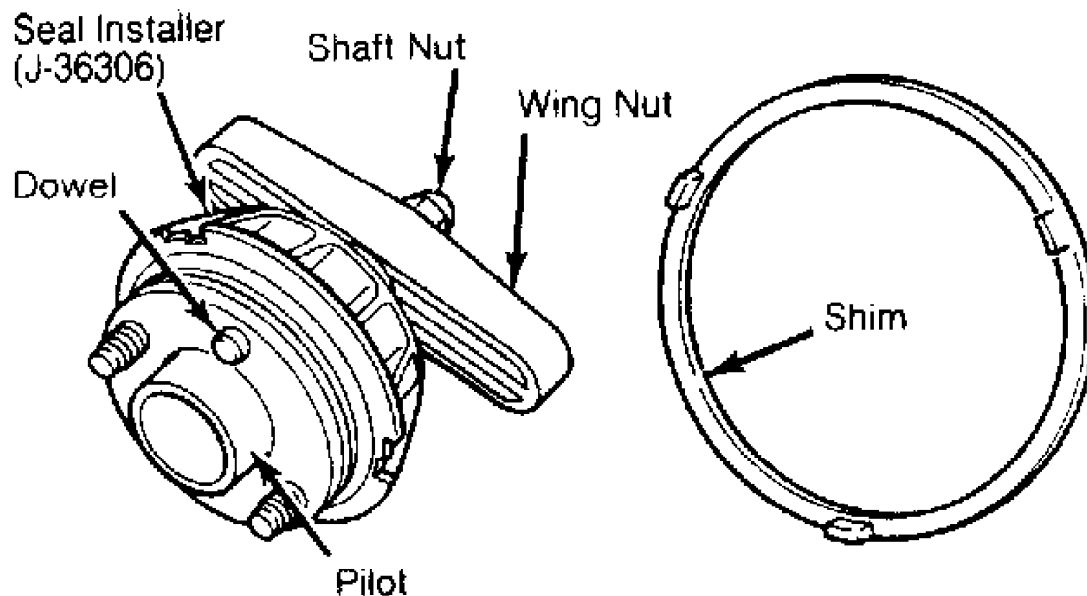

Fig. 7: Installing Rear Main Bearing Oil Seal
1) Position wing nut on Seal Installer (J-36306) until it contacts the shaft nut. See Fig. 7. Install shim if old type seal Part No. (324 1669) is used.